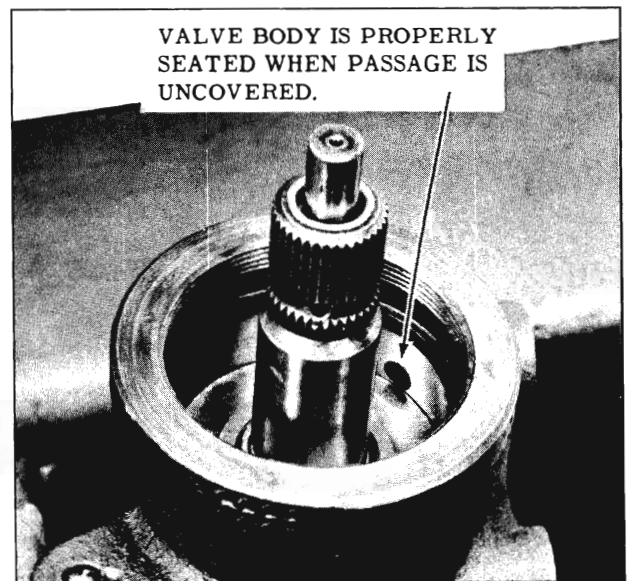

Fig. 4-67 Valve Body Properly Seated
**IMPORTANT:** The valve body is properly seated when the oil return hole in the housing is entirely uncovered. (Fig. 4-67)